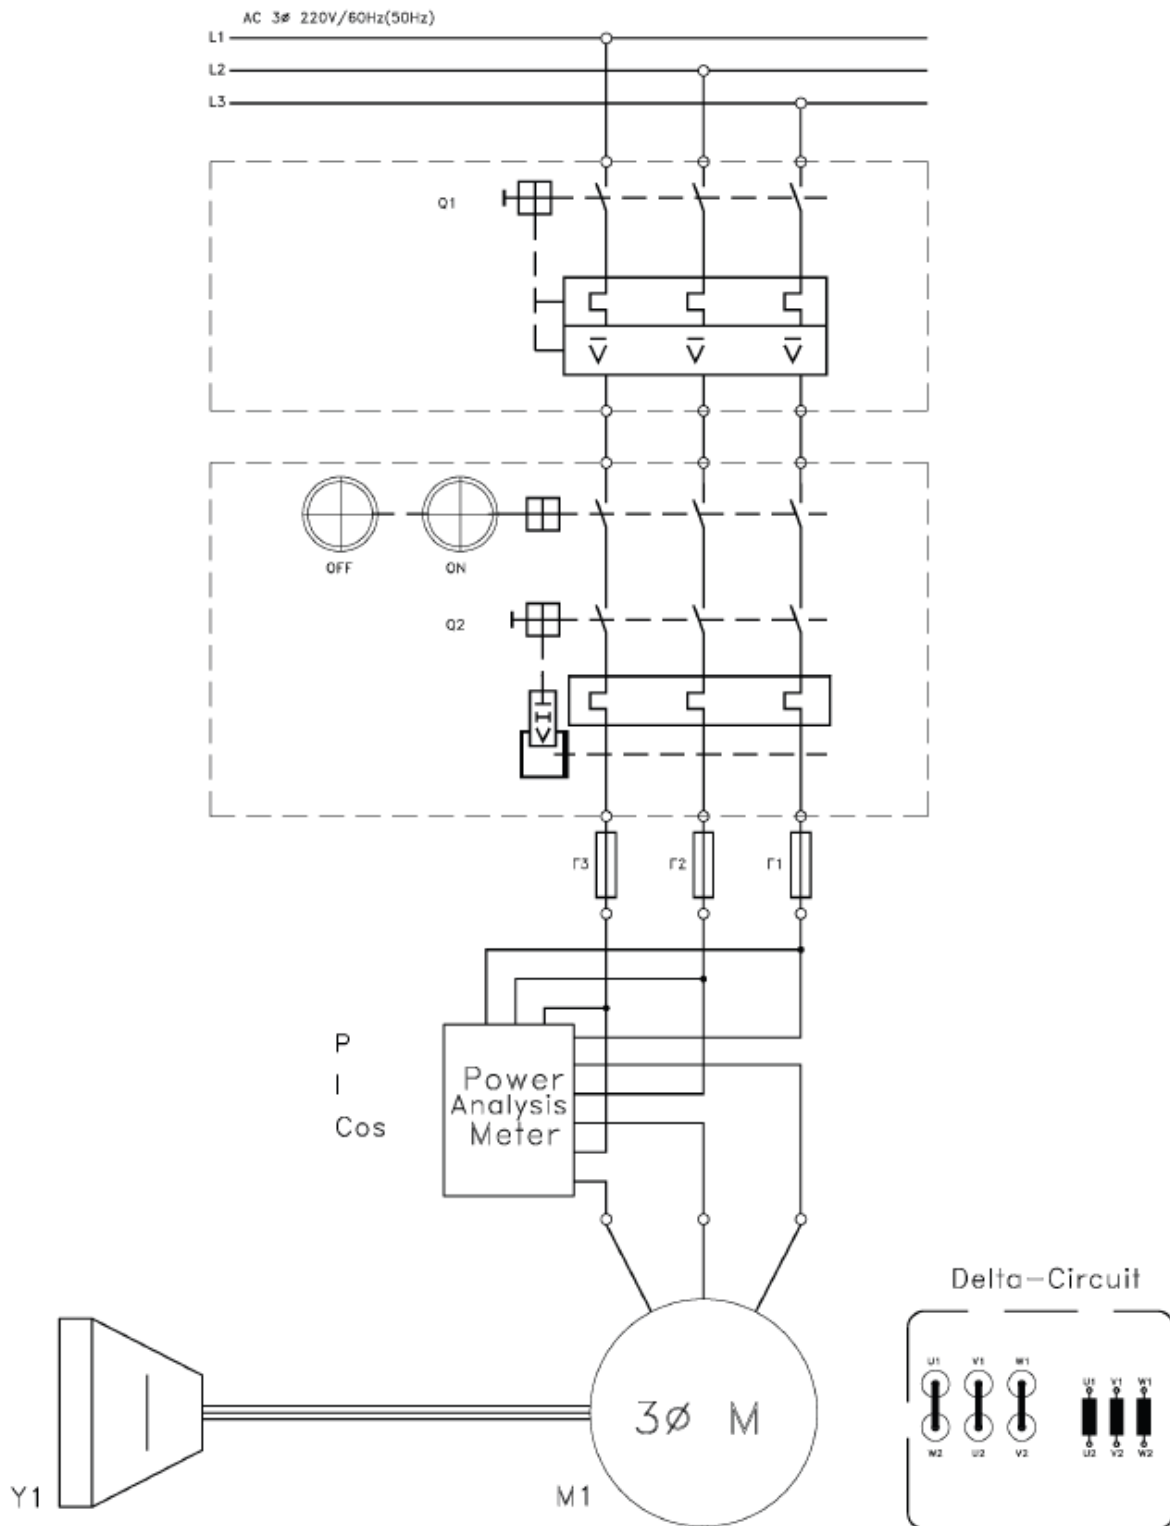
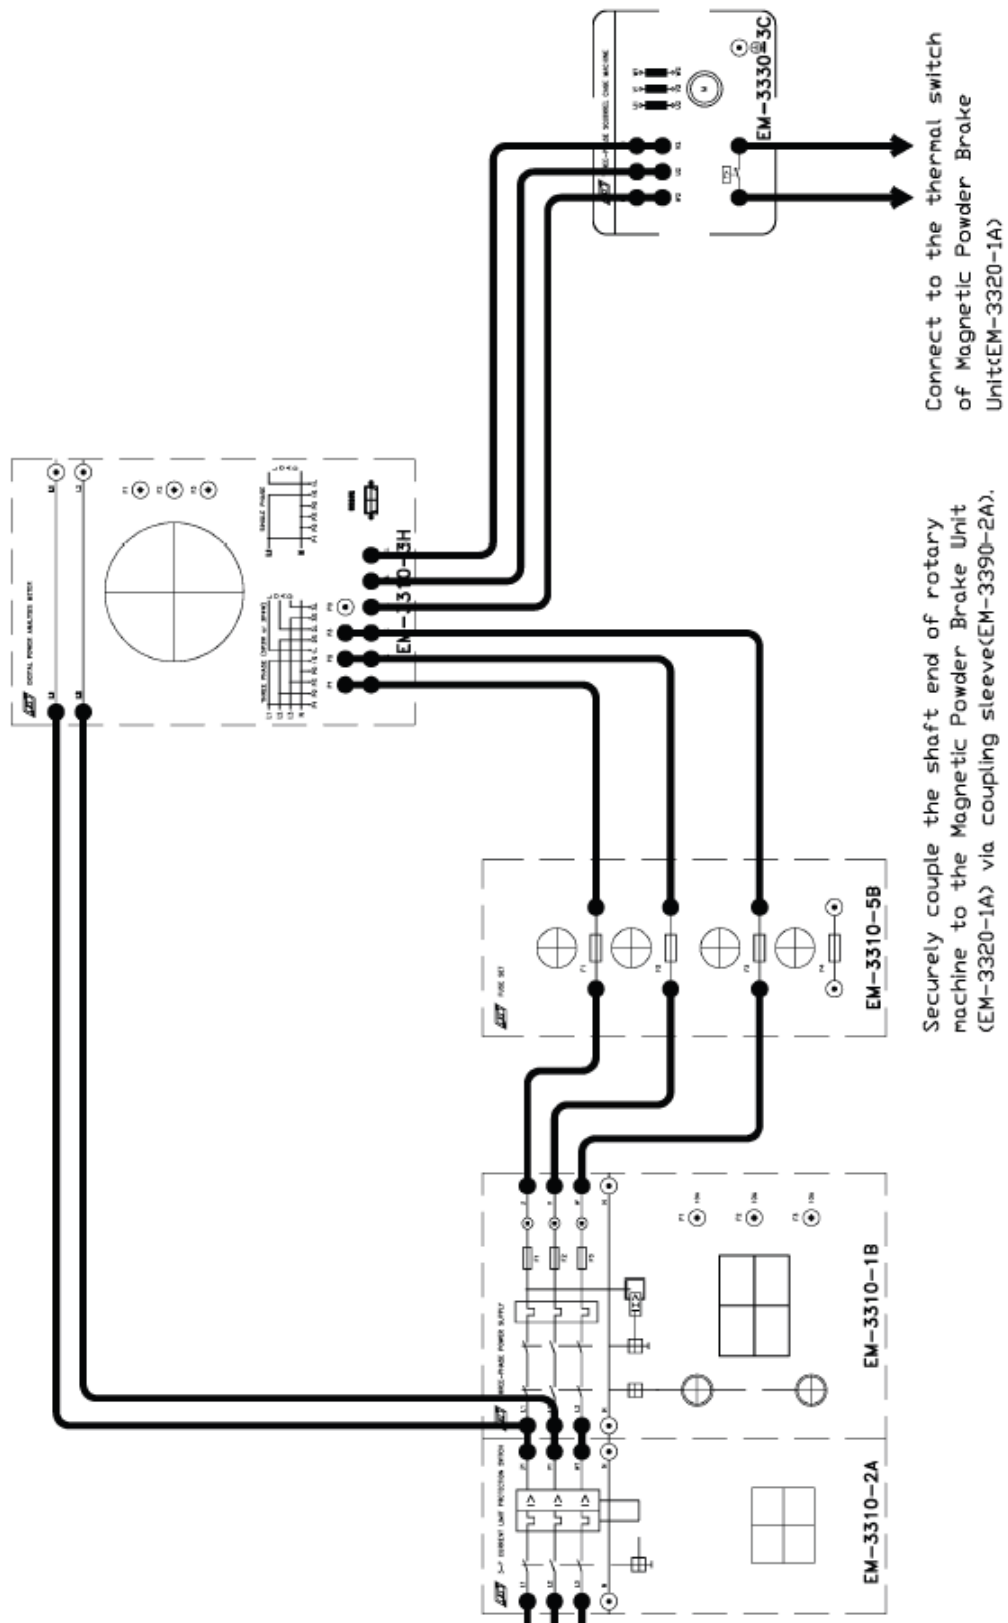

Fig. 12-6-1 Circuit diagram for torque-speed characteristic test
Fig. 12-6-2 Connection diagram for torque-speed characteristic test
2. Install the required Modules in the Experimental Frame. Construct the circuit in accordance with the circuit diagram in Fig. 12-6-1 and the connection diagram in Fig. 12-6-2. Have the instructor check your completed circuit. **Note:** The thermal switches of Single-phase Induction Motor and Magnetic Powder Brake Unit must be connected together.